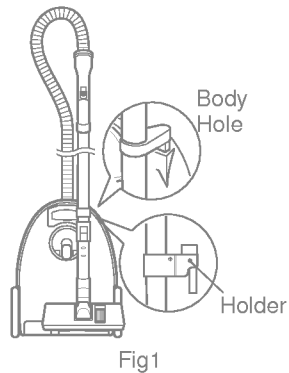

Fig1
11. When not in use, attach the WAND HOLDER to the body hole while the body is in upright position.(Fig 1)